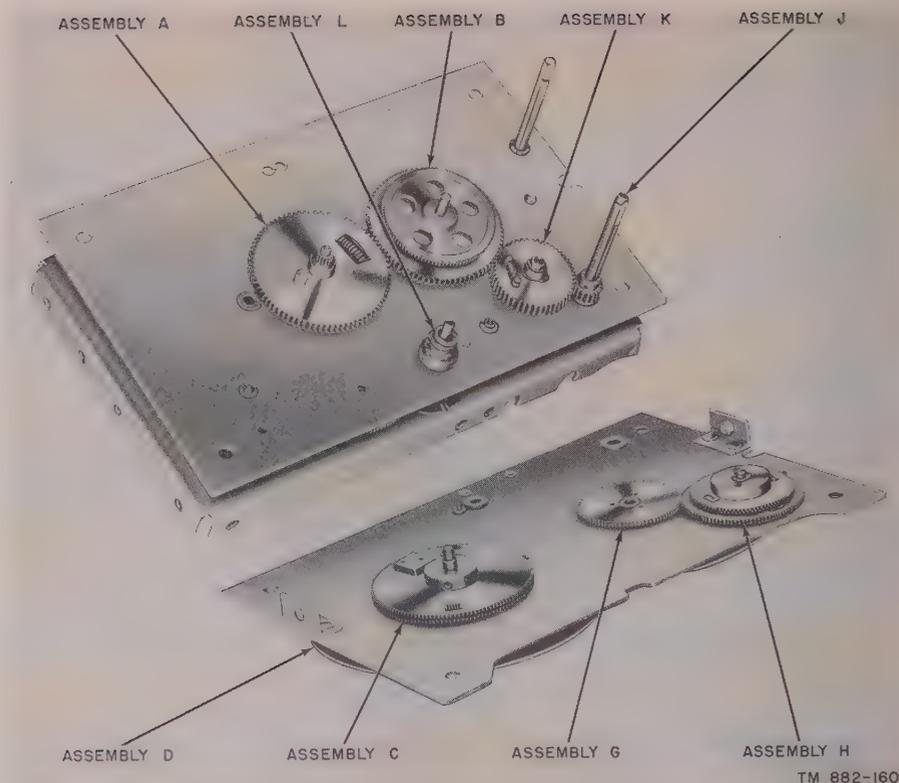

Figure 104. Control head, assemblies A through L.
ceiver R-220/URR consists of various gear assemblies which are used to continuously tune the receiver to any frequency within the range of 20 to 230 mc. An over-all view of the control head is shown in figure 103. The various parts of the control head are mounted on control plate #1 assembly (AA), control bearing plate #2 assembly (BB), and control bearing frame #3 assembly (CC). Figure 104 shows the assemblies located between control bearing plate #1 and control bearing plate #2 (assemblies A through L); an exploded view of these assemblies is shown in figure 130. Figure 105 shows the assemblies located between control bearing plate #2 and control bearing frame #3 (assemblies M through X); an exploded view of these assemblies is shown in figure 131. Parts shown in figures 103, 104, 105, 130, and 131 are identified by a letter or a letter and number combination. When following the disassembly procedure refer to figures 103, 104, and 105 to locate the assembly; then to figures 130 and 131 to locate individual parts of the assembly.
- (3) Slide stop collar L1 on band switch tuning shaft U3 until L1 is flush with control bearing plate #2 assembly BB. Tighten three setscrews L3. Slide stops L4 and L5 over shaft U3. Spring-load assembly K by rotating intermediate gear #1 K1 counterclockwise three teeth positions. Maintain the proper tension by engaging tuning shaft J1 with assembly K. Slide r-f to oscillator gear B1 and r-f even band dial driver gear B2 on vernier drive shaft B5 and tighten setscrews B4. Spring-load assembly A by holding free oscillator anti-backlash gear A 5 and rotating fixed oscillator anti-backlash gear A 2 counterclockwise three teeth positions. Position assembly A so that main stop stud A 4 will come in contact with main dial stop C5 when control bearing plate #1 is assembled. Maintain the proper tension on assembly A by engaging it with r-f to oscillator gear B1. Figure 104 shows control bearing plate #2 BB assembled to control bearing frame #3 CC.
- (4) Spring-load gears H2 and H8 by rotating loose gear H2 counterclockwise one or two teeth positions. Maintain the proper tension by engaging the gears with assembly G. Spring-load gears H1 and H4 by rotating loose gear H1 counterclockwise one or two teeth positions. Use a paper clip or similar device to maintain the proper tension on these gears. Spring-load gears C1 and C4 by rotating loose gear C4 counterclockwise one or two teeth positions. Use a paper clip or similar device to maintain the proper tension. Figure 104 shows the assemblies contained on control bearing plate #1 assembly AA.